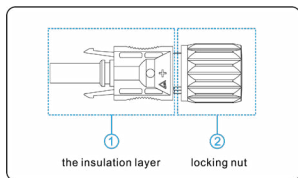
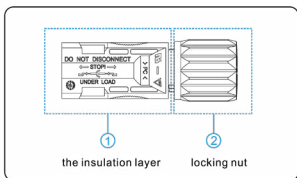

Figure 5.10 Positive connector compositions
Figure 5.11 Negative connector compositions
Connectors of PV Strings: Positive and negative DC input connectors are used, as shown in **Figure 5.10** and **Figure 5.11**.
Step 2 Insert the exposed areas of the positive and negative power cables into the metal terminals of the positive and negative connectors respectively and crimp them using a crimping tool, as shown in **Figure 5.11**.